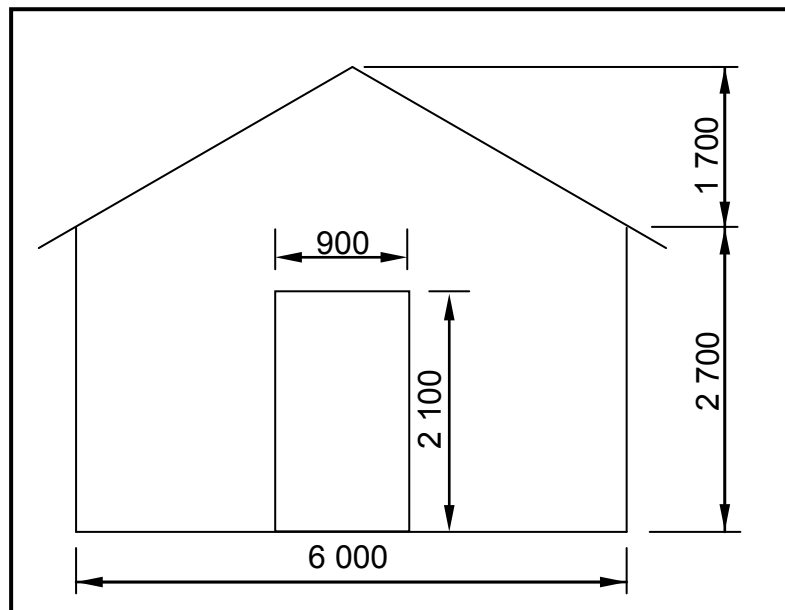

FIGURE 4.2
4.2 FIGURE 4.2 below shows the elevation of a gable wall of a building. The wall is 220 mm thick. Use ANSWER SHEET 4.2 (attached) to calculate the following: